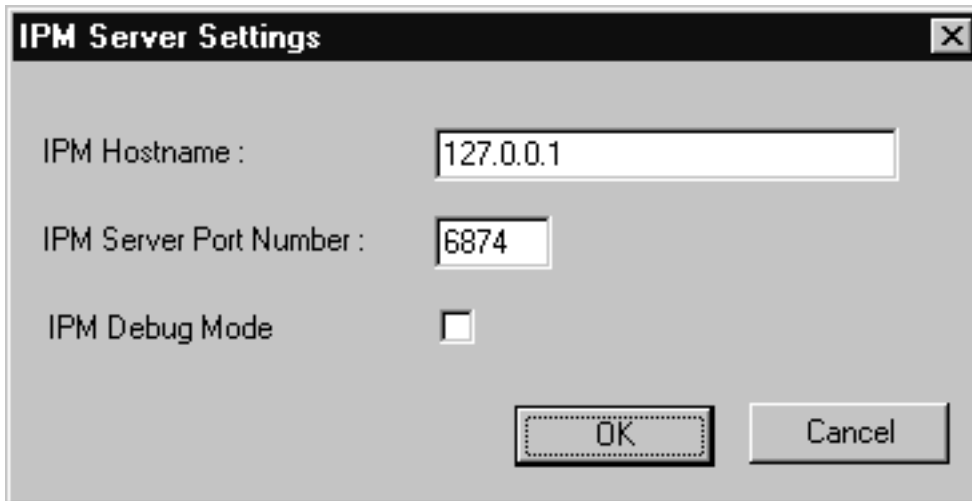

Figure 3. IPM Server Settings dialog
6. From the **IPM Server Settings** pop-up dialog (see Figure 3 on page 28), specify either the fully-qualified hostname or the IP address of the Infoprint Manager server to which you will be sending jobs. The **IPM Hostname** field defaults to showing the loop back address and must be changed.